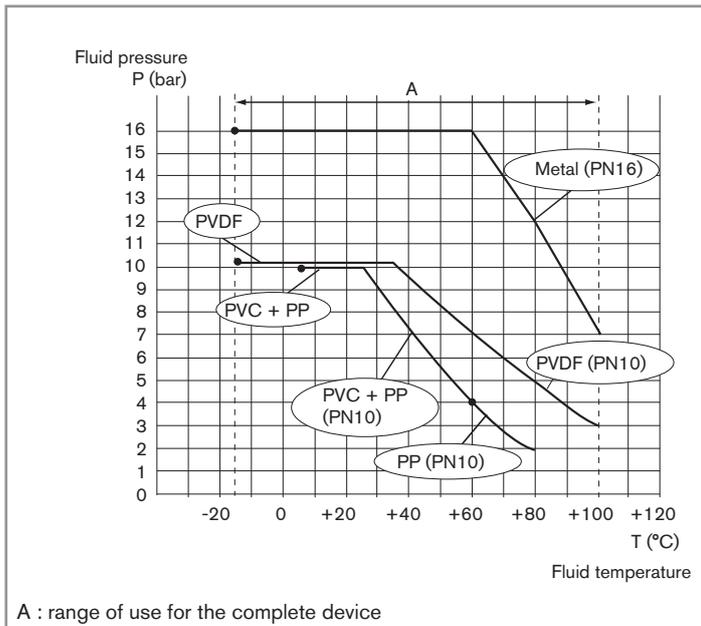

Fig. 1: Fluid pressure / temperature dependency curves
Fluid pressure	depends on the fitting material; see Fig. 1 in chap. 7.1
- ▶ Take the fluid pressure / temperature dependency into account according to the nature of the material of the fitting used (see Fig. 1).